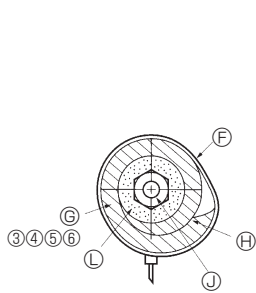
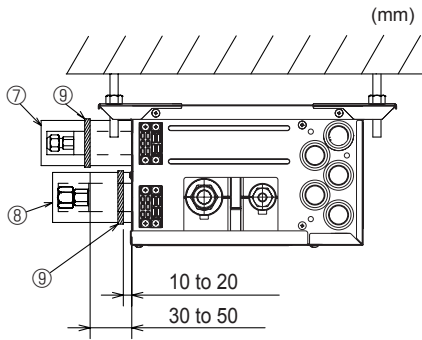

Fig. 7-3
Fig. 7-4
- (1) Remove the flared nuts and caps from the branch box.
- (2) Flare the ends of the liquid and gas piping, and apply refrigeration oil (procure locally) to the flared seat. Do not apply oil to the threaded portion.
- (3) Connect the refrigerant piping immediately. Always tighten the flared nuts to the torque specified in the table 2 using a torque wrench and double spanner.
- (4) Press the pipe covers ③ and ⑤ on the liquid piping against the unit and wrap to hold in place. (Fig. 7-3)
- (5) Press the pipe covers ④ and ⑥ on the gas piping against the unit and wrap to hold in place. (Fig. 7-3)
- (6) Apply the supplied bands ⑨ at a position 10 - 20 mm from each end of the pipe covers (③④⑤⑥).
- (7) If the indoor unit is not connected, fit the supplied pipe covers (with caps, ⑦ and ⑧) to the branch box refrigerant piping connections against the unit to prevent condensation dripping from the pipes. (Fig. 7-4)
- (8) Clamp the pipe covers (⑦⑧) in place with the supplied bands ⑨.
- Ⓢ Band ⑨
- Ⓣ Pipe covers ③④⑤⑥
► Use the following procedures for indoor connection part which indoor unit is not connected. (Fig. 7-4)
- (1) In order to prevent refrigerant leaks, make sure that the flare nuts are tightened according to the specified torques* in Table 3.
- (2) In order to prevent condensation, install the pipe covers ⑦ ⑧ against the unit and fasten them with the supplied bands ⑨ .